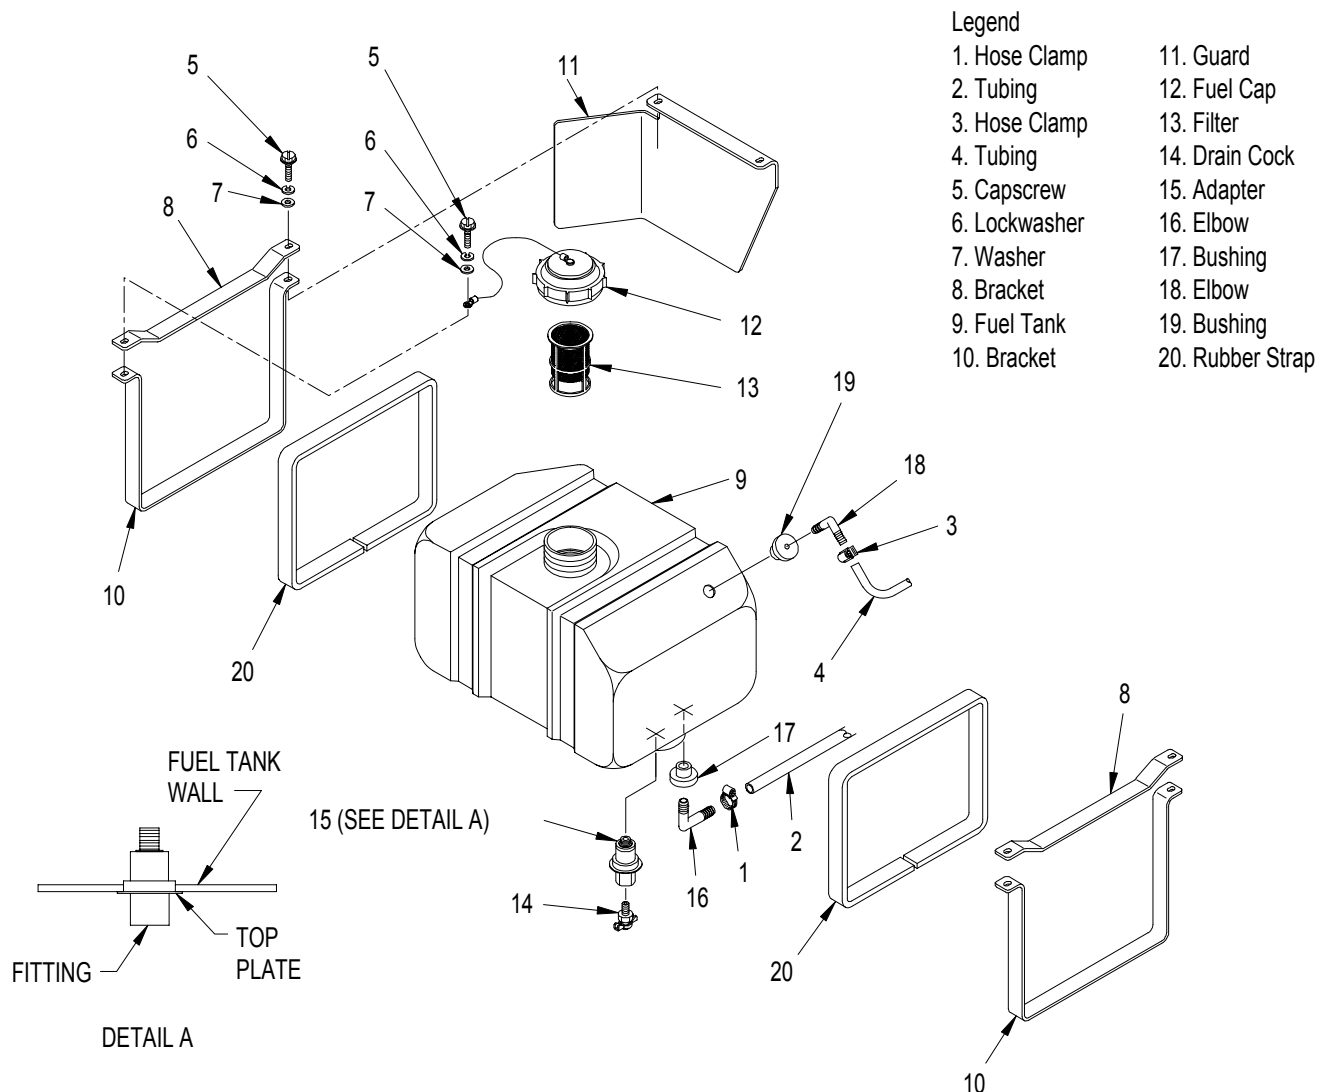

Figure 4-15. Fuel Tank Assembly
- (2) Open fuel tank drain cock (14, Figure 4-15) and drain fuel into suitable container. Close fuel tank drain cock. Fuel tank capacity is 1.6 gal. (6.1 L).
- (3) Loosen hose clamp (1) and disconnect tank-to-filter fuel line tubing (2) from elbow (16) at bottom of fuel tank (9).
- (4) Loosen hose clamp (3) and disconnect return fuel line tubing (4) from elbow (18) at front of fuel tank (9).
- (5) Remove capscrews (5), lockwashers (6), washers (7), and upper fuel tank brackets (8).
- (6) Remove fuel tank (9) from lower fuel tank brackets (10).
- (7) Remove lower fuel tank brackets (10) and guard (11) from generator set frame.
- (1) Remove fuel cap (12, Figure 4-15) and filter (13) from fuel tank (9).
- (2) Remove fuel drain cock (14) from adapter (15).
- (3) Remove adapter (15) from fuel tank by holding adapter top plate with pliers and turning adapter fitting, refer to Detail A.
- (1) Inspect fuel tank brackets (8 and 10, Figure 4-15) for damage that would prevent them from securely holding fuel tank.
- (1) If removed, install rubber straps (20, Figure 4-15) on fuel tank (9). Make sure fuel tank is clean and free of oil, dirt, and grease. Then cut rubber straps and secure with adhesive (Item 1, Appendix E). Follow adhesive manufacturer's instructions for application.
- (2) Install bushings (19 and 17) in fuel tank (9), and elbows (18 and 16) in bushings.
- (3) Install adapter (15) in fuel tank (9). Torque adapter to 40 lbs-in (4.5 Nm), then install fuel drain cock (14) in adapter.
- (4) Install filter (13) and fuel cap (12) on fuel tank (9).
- (1) Position guard (11, Figure 4-15) and lower fuel tank brackets (10) in generator set frame.
- (2) Place fuel tank (9) in lower fuel tank brackets (10).
- (3) Secure fuel tank (9) in generator set with upper fuel tank brackets (8), washers (7), lockwashers (6), and capscrews (5) ensuring fuel cap (12) wire rope is secured under rear right side hardware.
- (4) Connect fuel return line tubing (4) to elbow (18) with hose clamp (3).
- (5) Connect tank-to-filter fuel line tubing (2) to elbow (16) with hose clamp (1).
- (6) Fill fuel tank with diesel fuel (DL-1, DL-2, or JP-8).
- (7) Prime and bleed the fuel system, refer to paragraph 2.7.c.